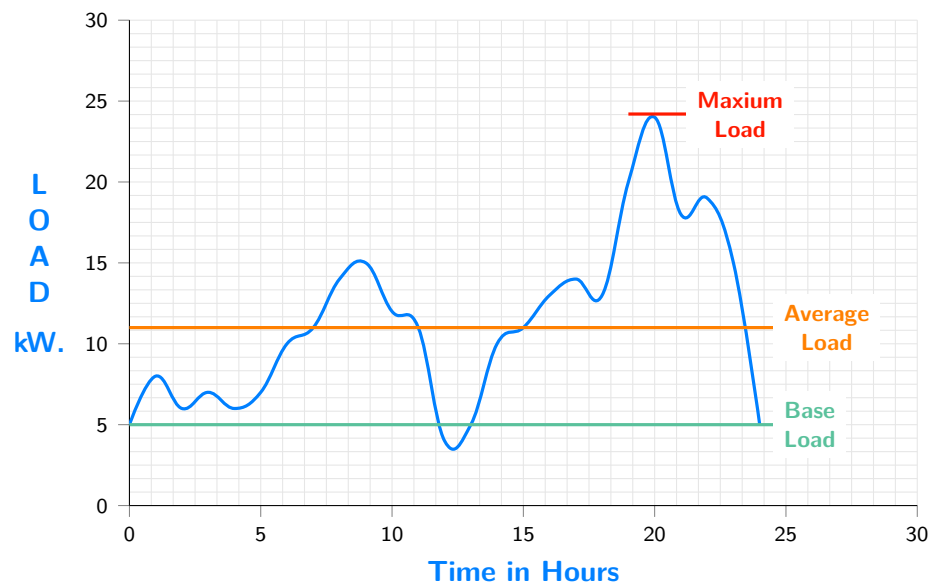

Figure 3.2: An elaborated demonstration of pgfplot capabilities
- fig. 3.2 on page 11
- Did you know that on page 11 we find fig. 3.2